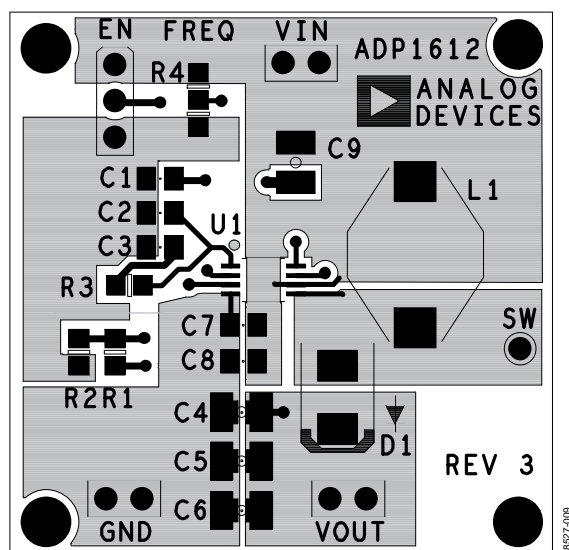

Figure 8. ADP1612/ADP1613 Boost Application PCB Top Layer
- Keep the low ESR input capacitor, C_{IN} (labeled as C7 in Figure 8), close to VIN and GND. This minimizes noise injected into the part from board parasitic inductance.
- Keep the high current path from C_{IN} (labeled as C7 in Figure 8) through the L1 inductor to SW and GND as short as possible.
- Keep the high current path from VIN through L1, the rectifier (D1), and the output capacitor, C_{OUT} (labeled as C4 in Figure 8), as short as possible.
- Connect the soft start capacitor, C_{SS} (labeled as C1 in Figure 8), as close to the device as possible. Connect the ground of the soft start capacitor to an AGND plane that makes a Kelvin connection to the GND pin.